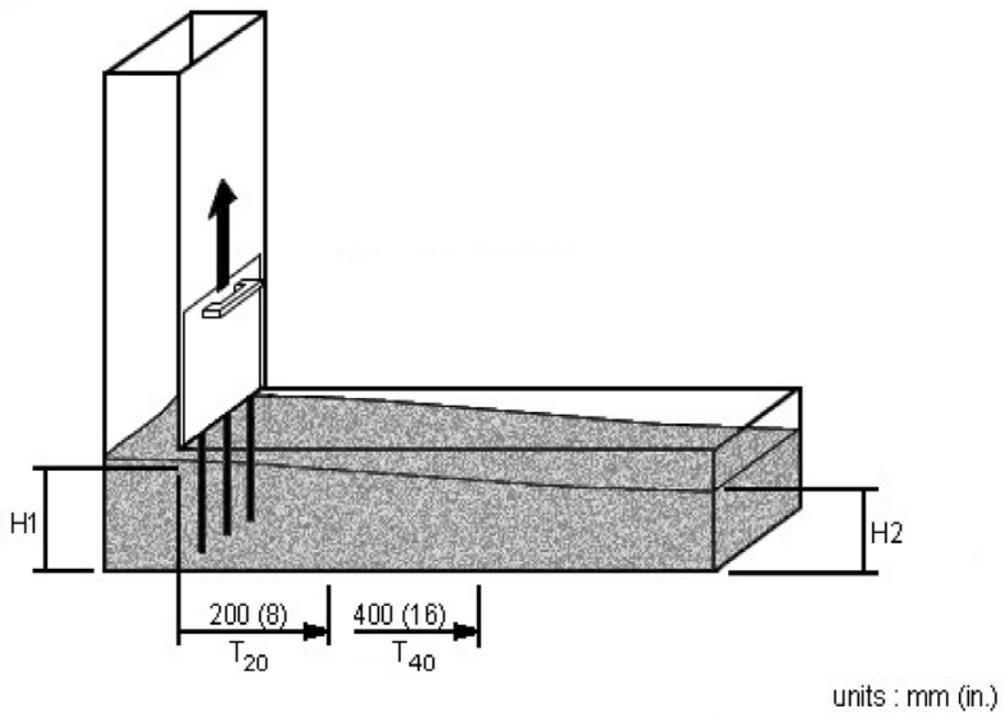

Figure 2. L-Box Test
7. Determine the time in seconds that it takes for the concrete flow to travel 200 mm (8 in.) and 400 mm (16 in.), as measured from the time the sliding gate is lifted. These are the T_{20} and T_{40} times, respectively (See Figure 2).